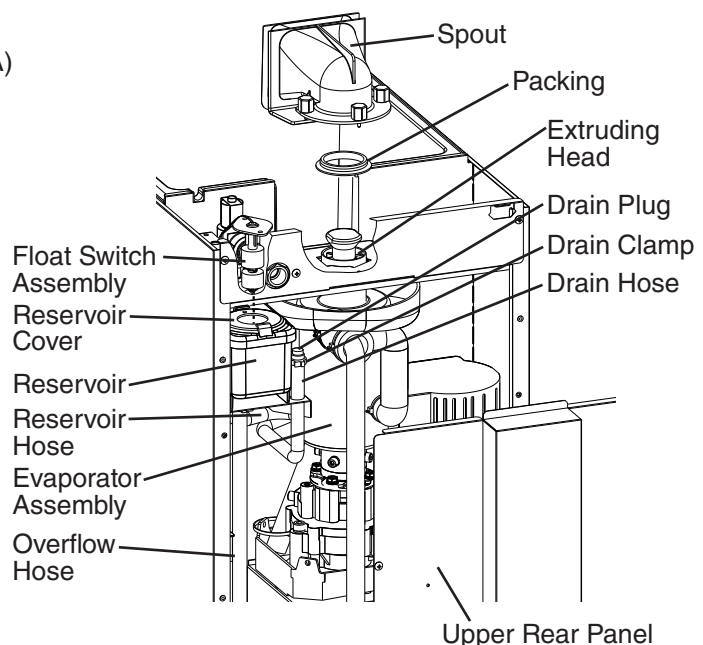

Fig. 16
- 9) Remove the clamp securing the drain plug, then lower the drain hose into a container. See Fig. 16. Remove the drain plug to drain the water from the evaporator assembly and reservoir.
- 7) Remove the clamp securing the drain plug, then lower the drain hose into a container. See Fig. 16. Remove the drain plug to drain the water from the evaporator assembly and reservoir.